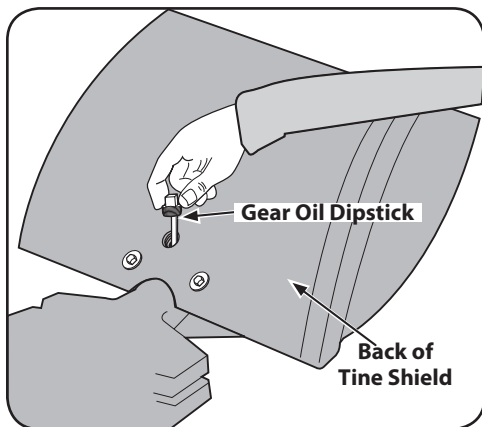

Figure 5-7
NOTE: Two different gear oil checking procedures for the tine attachment transmission are described next. Use the first procedure if the dipstick in your tine attachment has only a 'Check Cold' marking. Use the second procedure if the dipstick has both cold and hot markings at the end. First remove the dipstick from the tine attachment transmission to see which type of dipstick you have. See Figure 5-7. Then replace the dipstick with the markings on the dipstick facing to the rear.
on the back of the tine shield. See Figure 5-7. Wipe it clean with a rag.
- Hold the dipstick so its markings face to the rear of tiller. Lower it straight down into the sump hole to touch the drive shaft inside. See Figure 5-7. Don't force or try to thread it back in; an incorrect reading will result.
Set the handlebar base and bolt aside on a clean surface. The bolt hole in the top of the transmission is the gear oil fill hole. See Figure 5-7.
- Slowly pour gear oil through a clean funnel into the transmission. Stop when gear oil begins to flow from the oil level check hole on the left side of the transmission. See Figure 5-7.